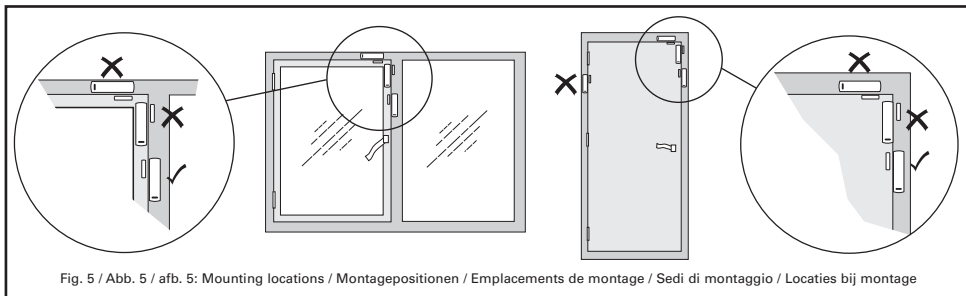

Fig. 5 / Abb. 5 / afb. 5: Mounting locations / Montagepositionen / Emplacements de montage / Sedi di montaggio / Locaties bij montage
- The sensor must be mounted high-up, vertically on the non-moving part of the frame (Fig 5).